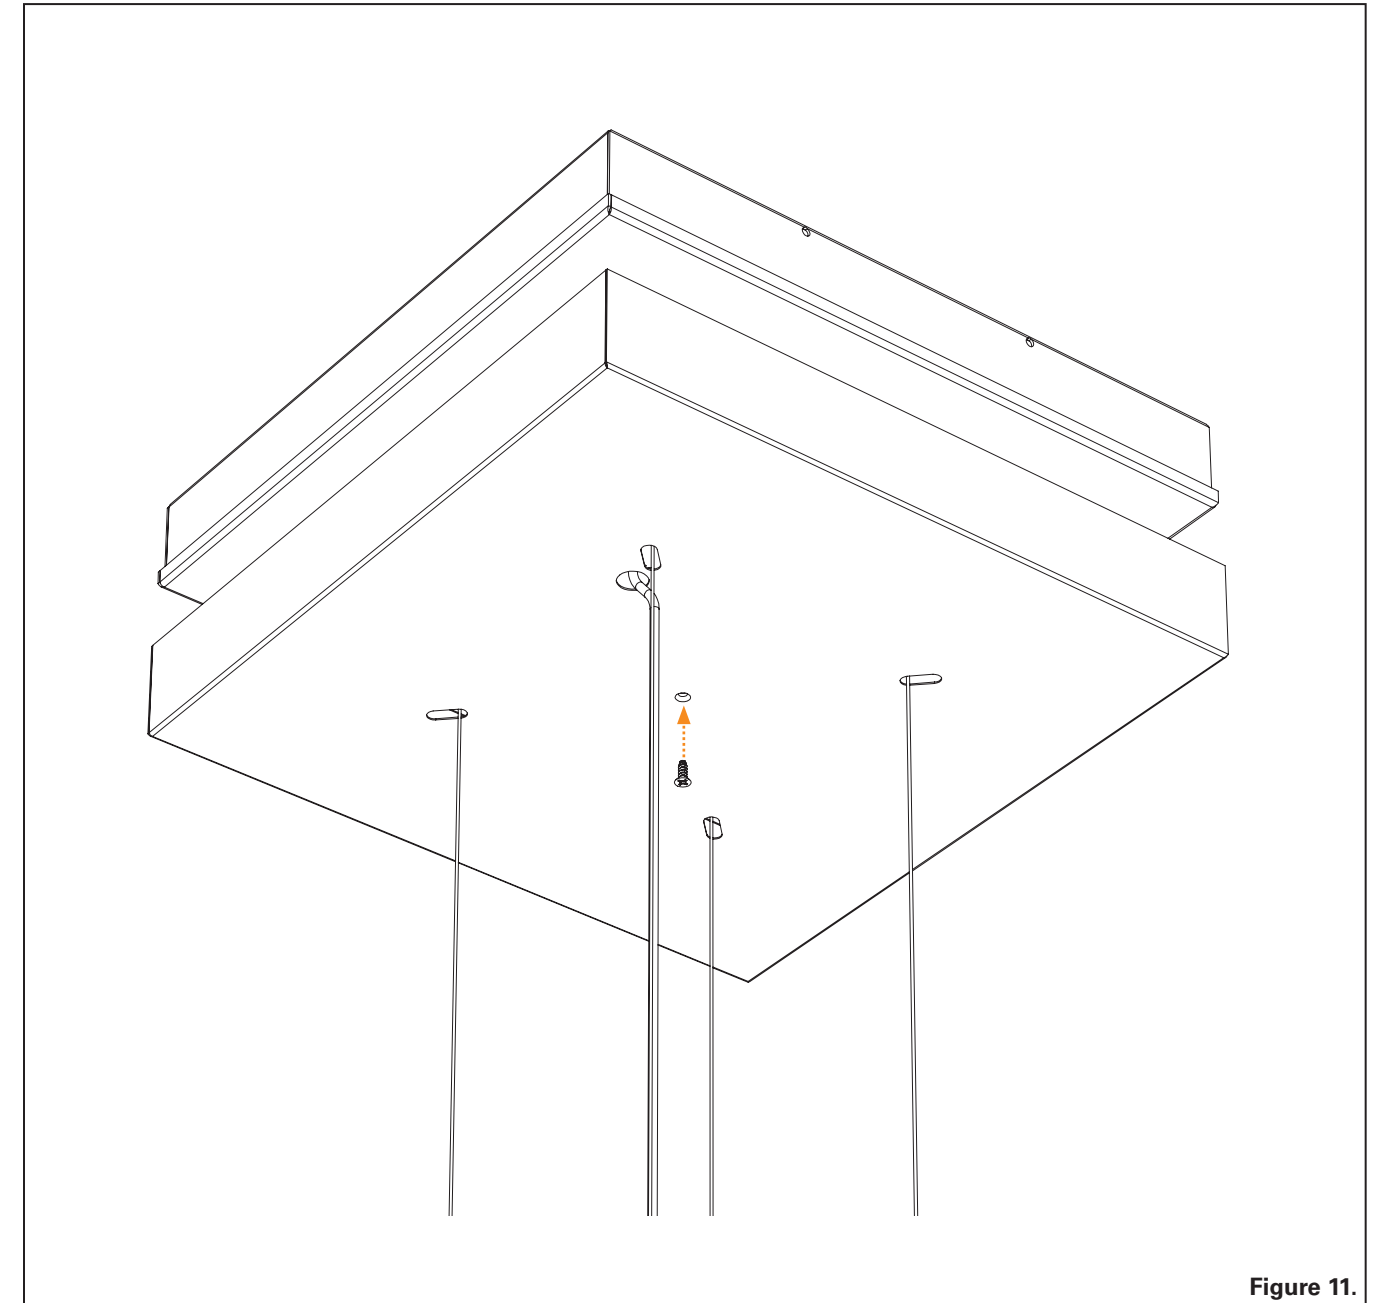

Figure 11.
Step 11a. Raise Decorative Cover and attach to the Driver Compartment using 1X flat head screw (head painted white). Ref. Figure 11.
Step 11b. Use Tie Wraps to keep the Low Voltage Cable tight against the Air Craft Cable. Ref. Figure 11.
Step 11c. Pull Low Voltage Cable tight to Air Craft Cable. Ref. Figure 11.